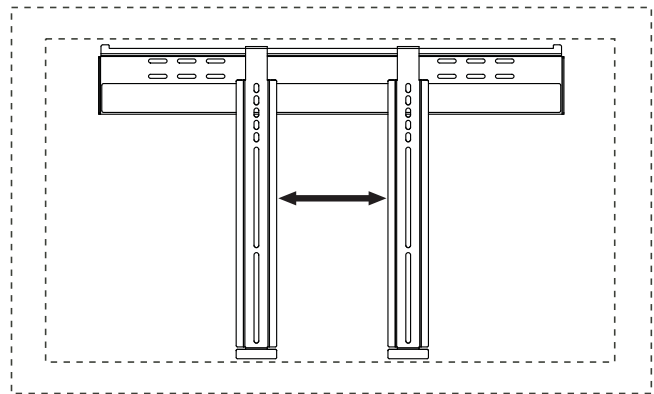
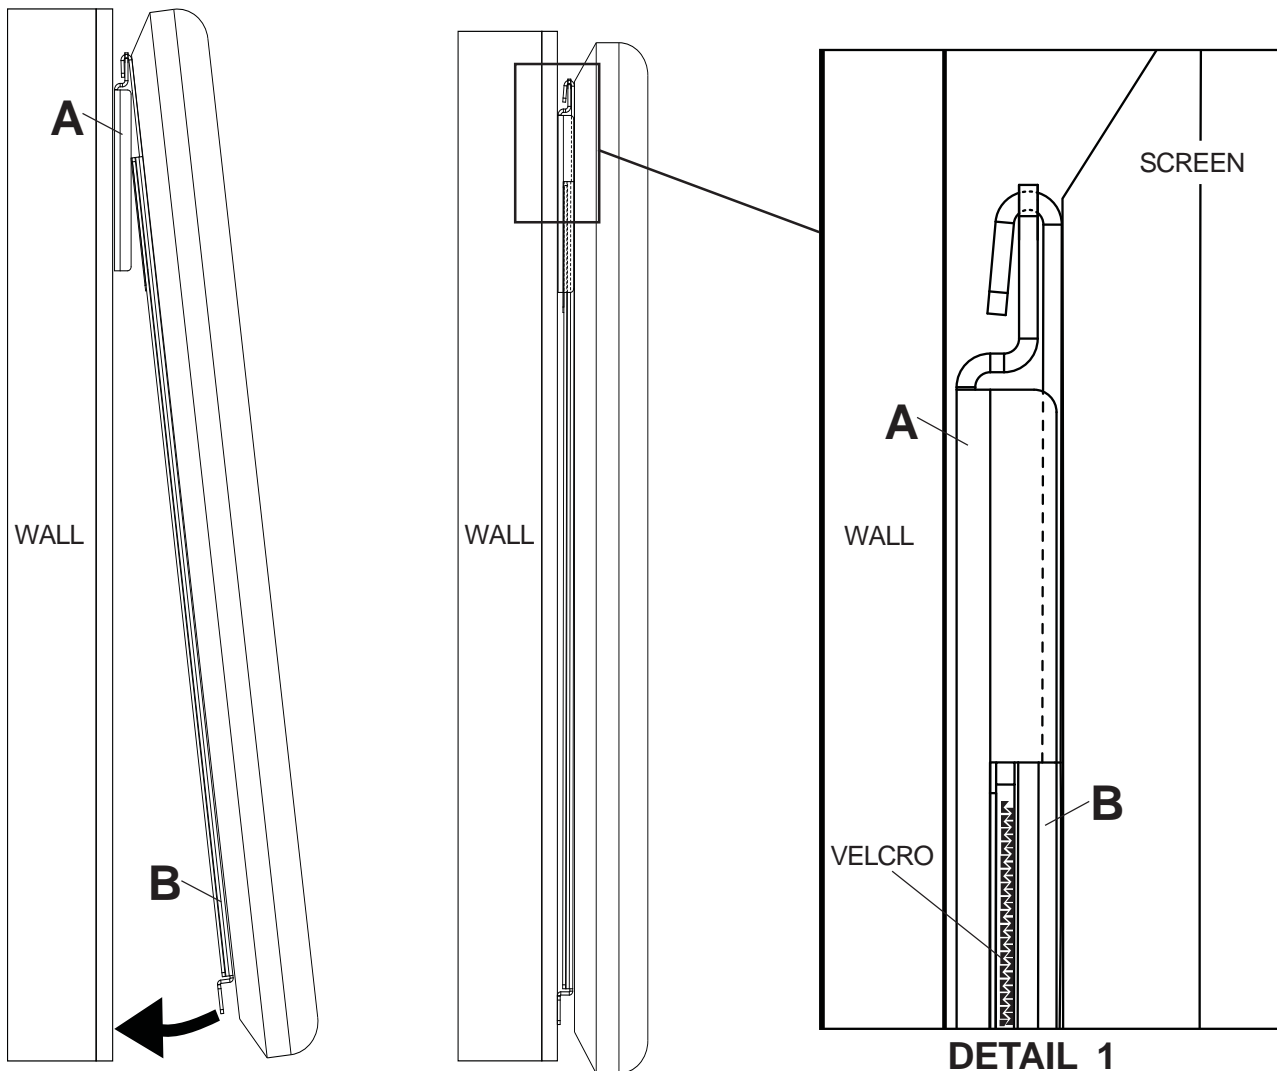

fig. 3.2
fig. 3.1
**3** Guide hooks of adapter brackets (**B**) onto flange of wall plate (**A**). Then slowly swing screen toward wall as shown in fig. 3.1. Gently press on screen to ensure velcro strips are engaged as shown in detail 1. Screen can be adjusted horizontally if desired as shown in fig. 3.2.